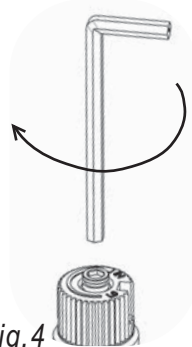

Fig.4
- 13) Using the Allen wrench as shown in Fig.4, rotate the screw clockwise until snug, do not overtighten.